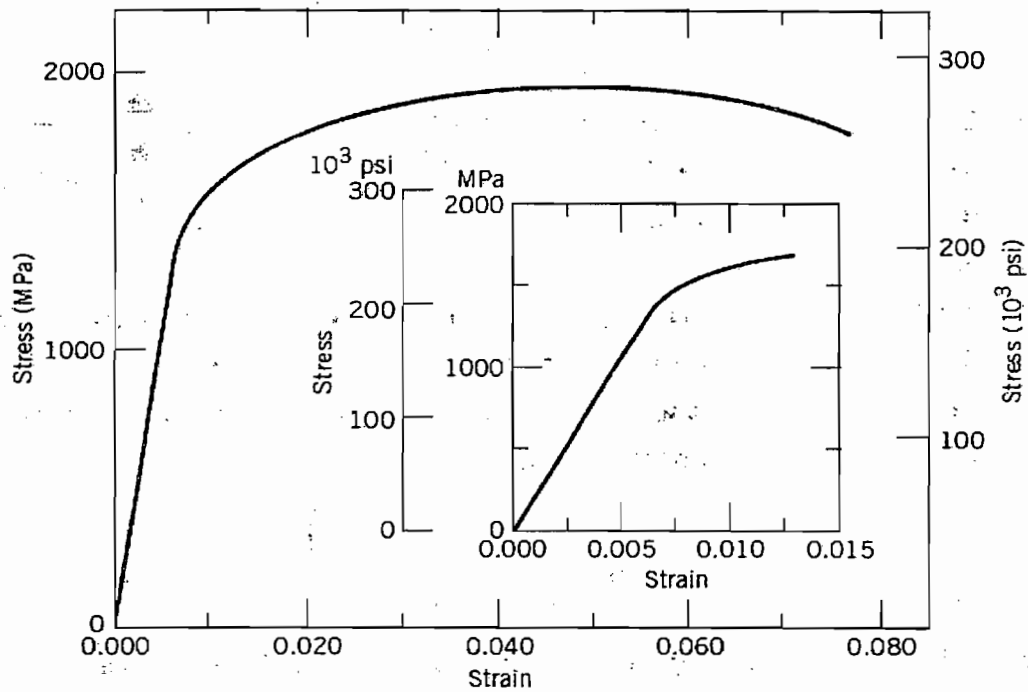

Figure 1 Stress-strain behavior of Steel alloy
- a. Figure 1 shows the tensile engineering stress-strain behavior for a steel alloy.
- b. A load of 140,000 N is applied to a cylindrical specimen of a steel alloy (displaying the stress-strain behavior shown in **Figure 1**) that has a cross-sectional diameter of 10 mm.